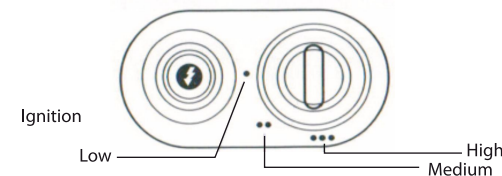

Fig. 2
2. Press and slowly turn the gas control knob on the control panel to * position (Fig.2). Keep the gas control knob pressed for 20-30 seconds. At the same time, press the piezo-ignition button several times, until the pilot lights up. Every time you press the piezo-ignition button, you can hear a loud click and see a spark on the piezo-ignition electrode. Continue keeping the gas control knob pressed for 10-15 seconds after ignition of the pilot flame in order to activate the flame detector.